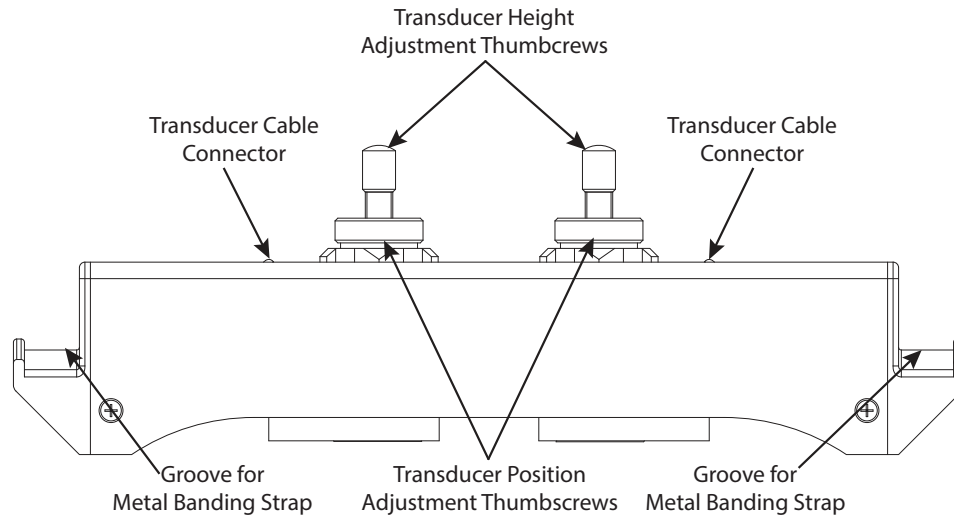

Figure 5: Easy rail side view
5. Place the mounting rail on the pipe and fasten it with metal banding straps. See Figure 5.